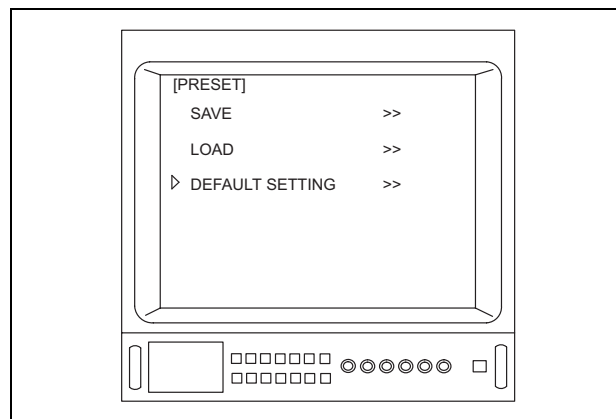

Figure 5.84
4. Depress the menu switches “◀” or “▶”, or the “↑/↓/←/→” key on the keyboard to move the arrow “▷” to “DEFAULT SETTING” (see Figure 5.84).